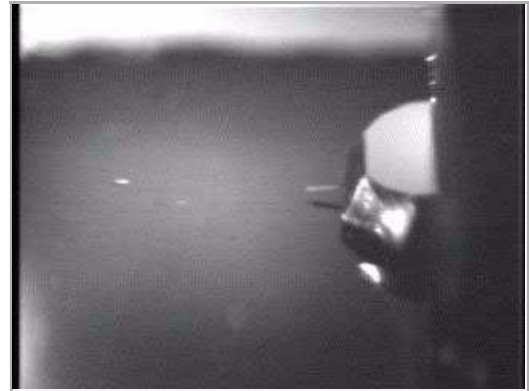

Figure 10: Side view of sample and cantilever after manual approach.
2. While observing the tip-sample distance, click and hold the "Advance" button in the Approach group of the Acquisition tab until the tip is close enough to the sample: The tip should not come closer to the sample than a few times the cantilever width (*Figure 10*). Now that the sample is in focus, the top view image from the integrated can be used to find a suitable location to measure on.